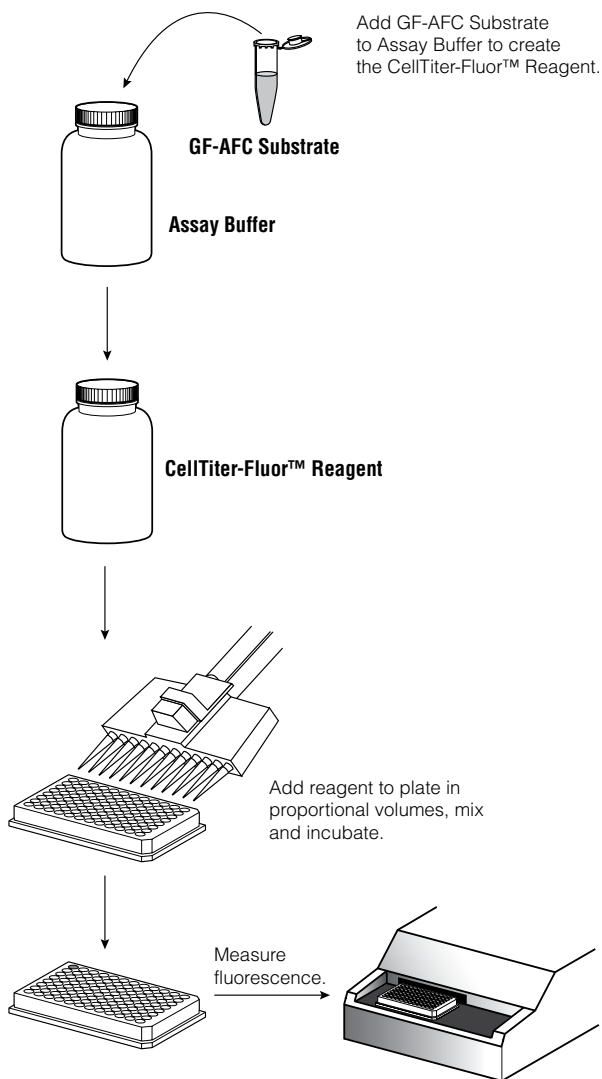

Figure 1. Schematic diagram of the CellTiter-Fluor™ Cell Viability Assay.
The CellTiter-Fluor™ Cell Viability Assay is a nonlytic, single-reagent-addition fluorescence assay that measures the relative number of live cells in a culture population after experimental manipulation (Figures 1 and 2). The CellTiter-Fluor™ Cell Viability Assay measures a conserved and constitutive protease activity within live cells and therefore serves as a marker of cell viability (1). Results obtained using the CellTiter-Fluor™ Cell Viability Assay correlate well with other established methods of determining cell viability (Figure 3). The live-cell protease activity is restricted to intact viable cells and is measured using a fluorogenic, cell-permeant, peptide substrate (glycyl-phenylalanyl-aminofluorocoumarin; GF-AFC). The substrate enters intact cells where it is cleaved by the live-cell protease activity to generate a fluorescent signal proportional to the number of living cells (Figure 4). This live-cell protease becomes inactive upon loss of cell membrane integrity and leakage into the surrounding culture medium.